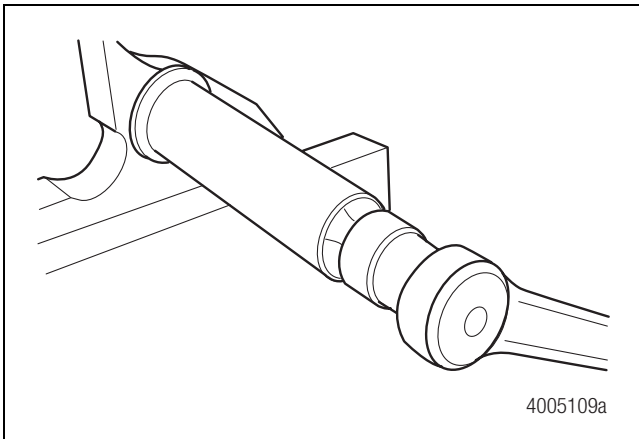

Figure 5.43
1. Before you remove the slide pins, note the locations of the long and short slide pins. Remove the slide pin bolts retaining the slide pins to the carrier. Figure 5.43. If necessary, carefully release the slide pins from their location on the carrier using a rubber or soft metal hammer.